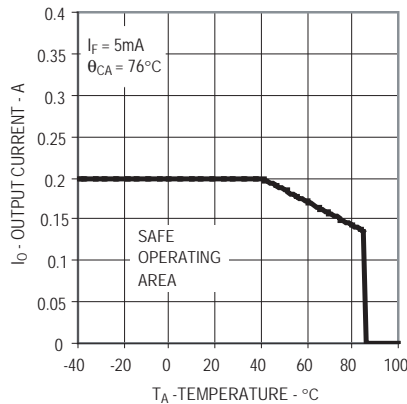
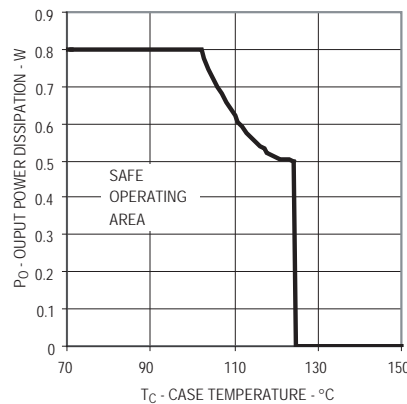

Figure 1. Maximum Average Output Current Rating vs Ambient Temperature
Figure 2. Output Power Derating vs Case Temperature
- For derating, refer to Figure 1 and 2.
Derating curves are shown in Figures 1 and 2. Figure 1 specifies the maximum average output current allowable for a given ambient temperature. Figure 2 specifies the output power dissipation allowable for a given case temperature. Above a case temperature  $102^\circ\text{C}$ , the maximum allowable output current and power dissipation are related by the expression  $R_{ss}=P_o(\text{max})/(I_o(\text{max}))^2$  from which  $R_{ss}$  can be calculated. Staying within the safe area assures that the steady state MOSFET junction temperature remains less than  $150^\circ\text{C}$ .